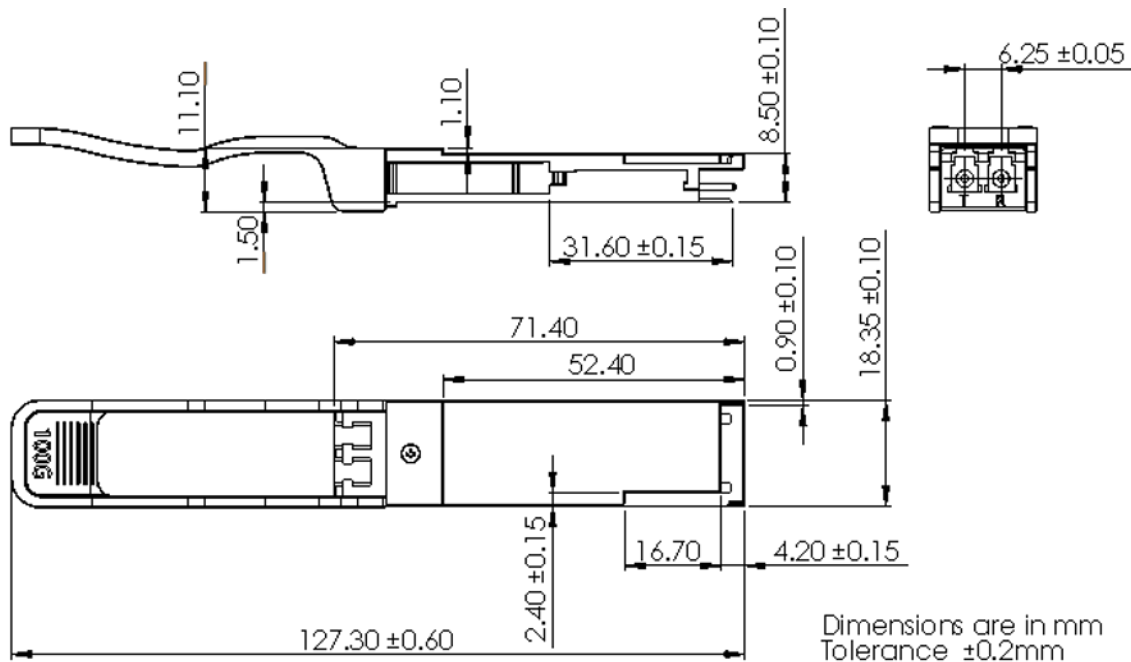

Figure 4 – Mechanical Outline
2. VccRx, Vcc1 and VccTx are the receiver and transmitter power suppliers and shall be applied concurrently. Recommended host board power supply filtering is shown in Figure 4 below. Vcc Rx, Vcc1 and Vcc Tx may be internally connected within the QSFP28 transceiver module in any combination. The connector pins are each rated for a maximum current of 1000mA.